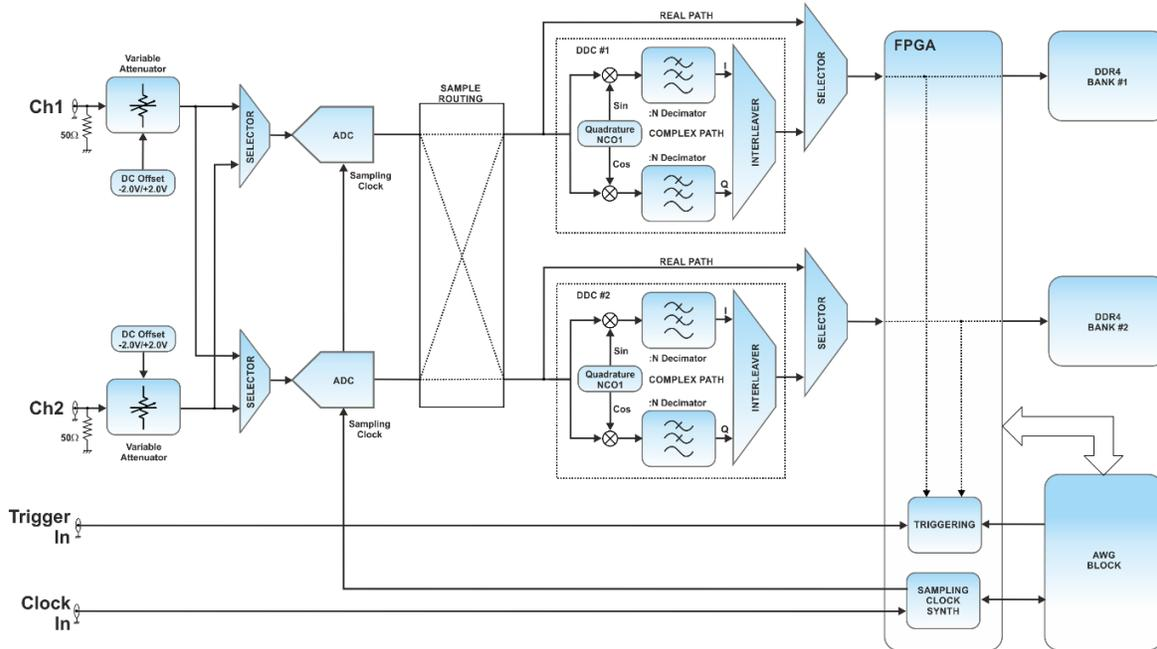

Figure 10.1 Digitizer Section Block Diagram for DUAL Mode
- Dual: In the dual mode, all the digitizer channels are operative. Sample rate can be set in the 800MS/s – 2.7GS/s range. Acquired waveform length must be always a multiple of 48 samples (Figure 10.1 Digitizer Section Block Diagram for DUAL Mode).